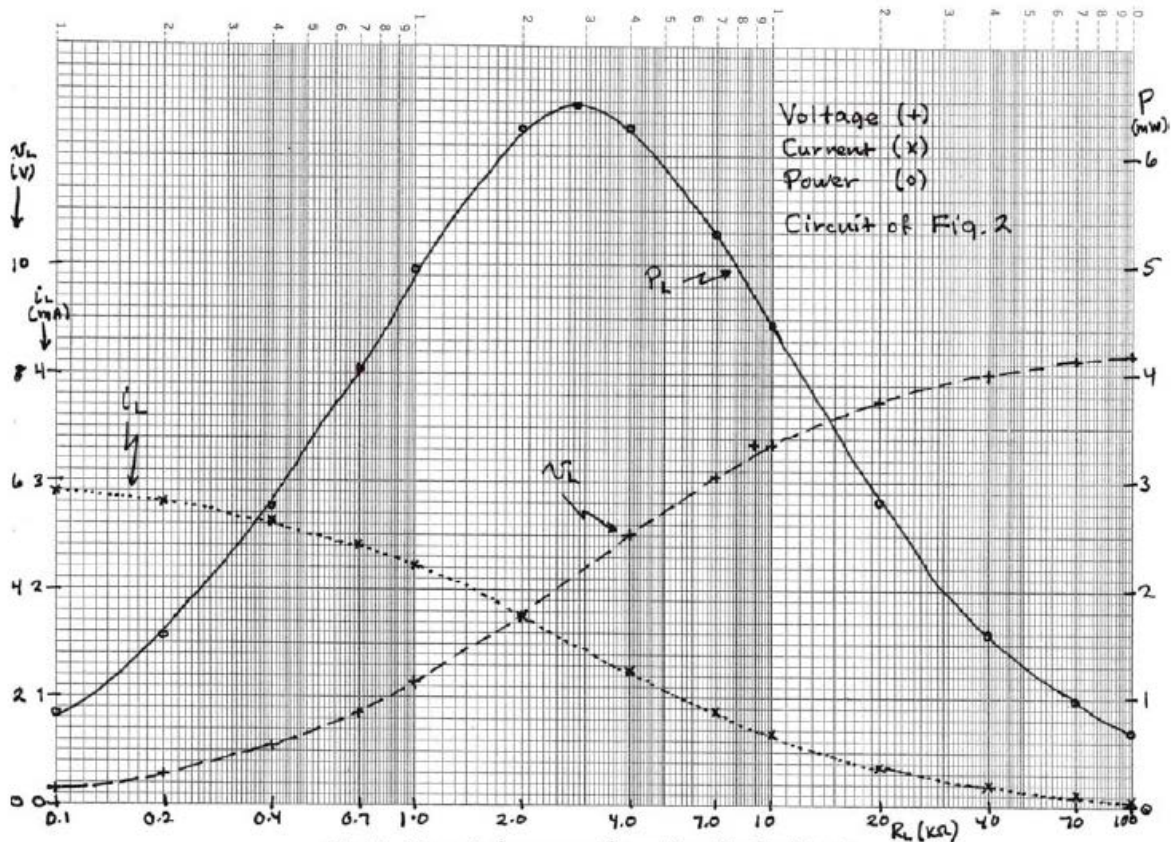

Figure 4-2: Example (not actual) semi log plot
2.1.3 Plot the value of V_x , I_x , and power as a function of R on the semilog paper provided. See the example semilog plot in Figure 4-2. Note the orientation of the graph paper. Properly attach the graph to your lab journal when you turn it in. It may be helpful to use Excel to create the graph.